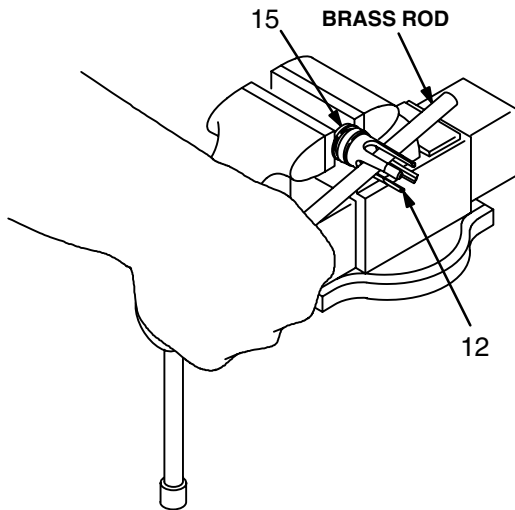

Fig 4
11. Use a 24 in. adjustable wrench on the flats of the pump cylinder (11) and unscrew the cylinder from the outlet housing (9). Remove the o-rings (10). Inspect the inside surface of the cylinder for wear, scoring or other damage by holding it up to the light at an angle or running a finger over the surface.
12. Inspect the surface of the displacement rod (1) and priming piston rod (21) for wear, scoring or other damage by running a finger over the surface.
13. Use a vise with soft jaws to hold the displacement rod (1) by its flats. Place a 15 mm wrench on the flats of the piston and unscrew the piston (13) and priming piston rod (21) from the displacement rod (1). Remove the piston guide assembly (12, 14, 15) from the piston (13), and set aside for disassembly later.
14. It is not necessary to remove the priming piston rod (21) from the piston (13) unless your inspection reveals scoring, wear, or other damage to either part. To disassemble, place the piston flats in a vise. Using an 8 mm wrench on the rod flats, unscrew the rod.
15. Place the flats of the piston seat (15) in a vise. Using an 8 mm (5/16 in.) dia. brass rod, unscrew the piston guide (12) from the piston seat (15). See Fig 4. Remove the piston seal (14); always replace with a new one. Inspect the mating surfaces of the piston (13) and piston seat (15) for nicks, scoring or wear.